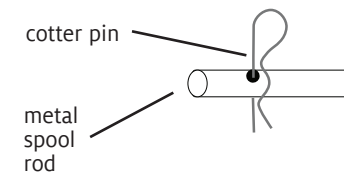

FIGURE 2: COTTER PIN INSTALLATION
4. Insert the metal spool rods in the uprights. About 1/2" of rod will extend through the uprights on each side. Push a cotter pin about halfway into the hole at the end of the rod, leaving a loop at the top (Figure 2).